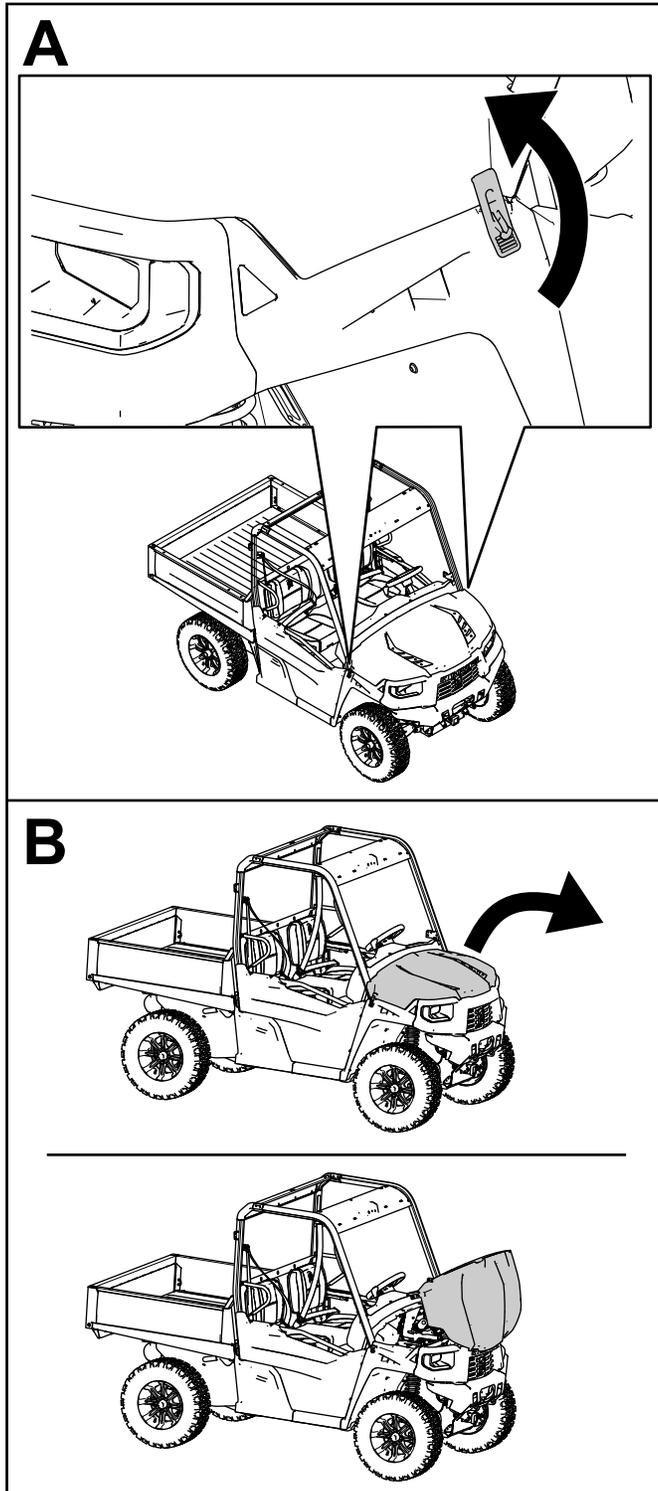

Figure 22
2. Secure the hood by aligning the rubber latches onto the latch anchors on each side of the hood (Figure 22).